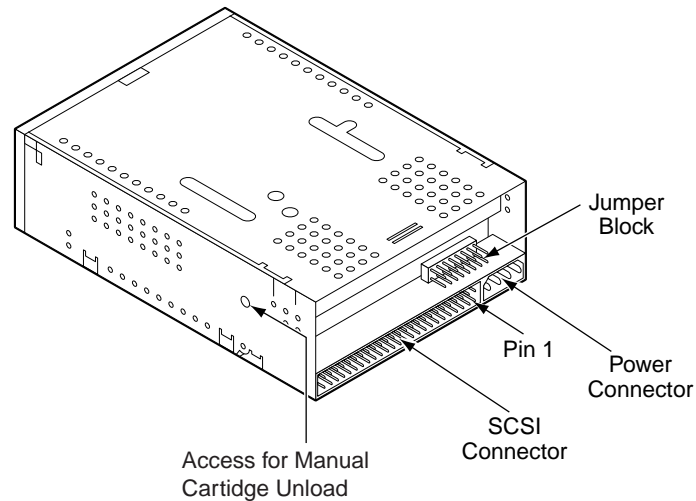
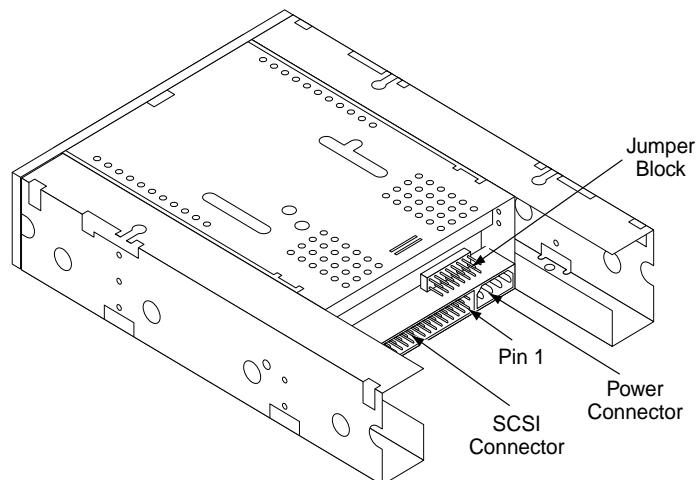

Figure 10. Location of Jumpers for Internal Model
Figure 11. Location of Jumpers for Internal Model with Rails
Figures 10 and 11 illustrate the location of the jumper block for internal drives.
Figure 10 illustrates these connections for the 3.5-inch internal drive. Figure 11 illustrates these connections for the 5.25-inch internal drive with rails.
1. Connect the SCSI cable to the SCSI connector at the rear of the drive. Pin 1 on the SCSI connector is to your right as you look at the back of the drive. (See Figures 10 and 11.) Your SCSI cable should be color-coded with Pin 1 highlighted by a color strip.